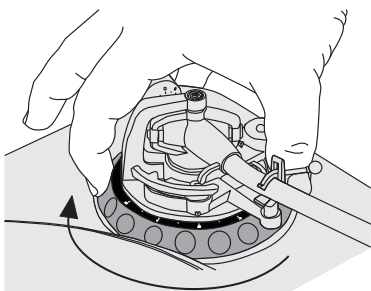

Fig. 10: Adjusting the height
- 2 By means of the adjustment ring lift the tone arm support within the range by up to 6 mm; the default setting is 0 mm (Fig. 10). Make your adjustment according to the following table: